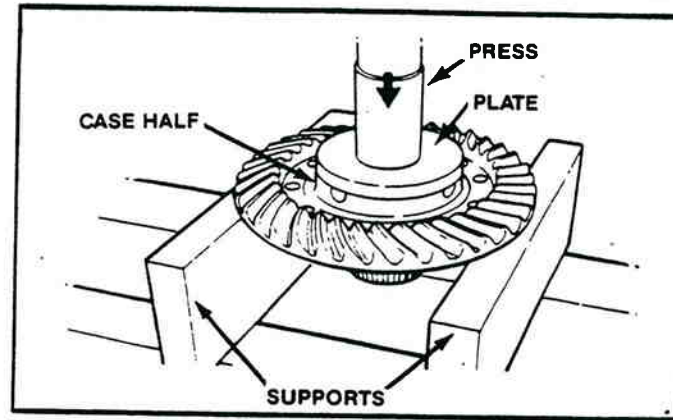

Figure 2-19. Pressing Case Half From Gear.
6. Separate the case half and ring gear using a press. Support the assembly under the ring gear with metal or wood blocks and press the case half through the gear (Figure 2-19).